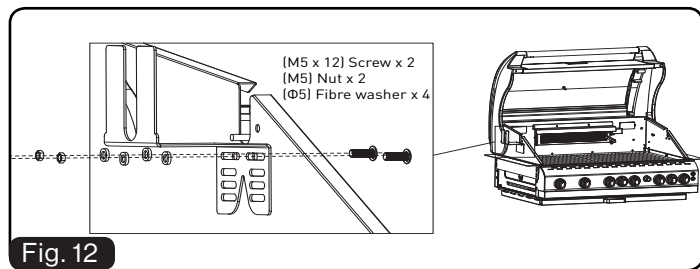

Fig. 12
12. Locate the motor bracket on the left holder of the lid as shown, using screws M5 x 12mm through fiber washer - lid left holder - fiber washer - nut in turn, then tighten the screws (Fig. 12)